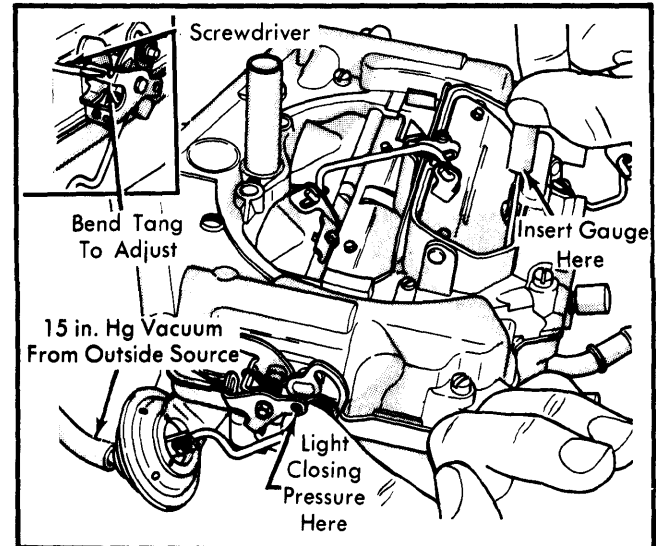

Fig. 8 Adjusting Choke Vacuum Kick
1) Open throttle and close choke. Now close throttle to trap fast idle cam at closed position. See Fig. 8.